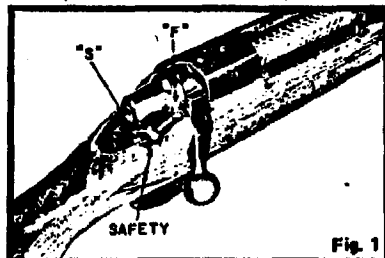
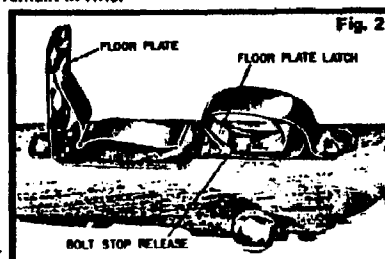

Fig. 1
Fig. 2
**SAFETY (Fig. 1)** — To engage safety to ON SAFE position, rotate to rear stop position marked "S" on receiver. Bolt handle will be locked down and rifle will not fire. When rotated forward to fire position, marked "F" on receiver, safety will disengage. Trigger can be pulled to fire rifle or bolt handle raised to open action. **CAUTION:** Before firing, make sure barrel is clean, free of heavy oil, grease, or any obstruction.
**TO MAGAZINE LOAD** — Open action. Load cartridge into magazine in conventional manner. Magazine may be loaded with four (4) standard caliber cartridges. Magnum magazine capacity is three (3) cartridges. If cartridge is loaded in chamber put safety ON SAFE before closing bolt.
**TO UNLOAD** — Hold rifle with muzzle pointed in safe direction. Move safety to OFF SAFE position and raise bolt handle. Move safety to ON SAFE position and pull handle rearward. Grasp cartridge and remove from action. Push bolt forward until next cartridge is released from magazine. Repeat until magazine is empty. **CAUTION:** Safety will be in the fire position during part of this operation, so keep muzzle pointed in safe direction. BDL grade magazine may also be unloaded from bottom. Raise bolt handle, pull bolt rearward and remove cartridge from chamber. Leave bolt in open (rear) position and put safety ON SAFE. Place hand over ejection port and turn rifle bottom upward. Press floor plate latch to release floor plate (Fig. 2). Lift floor plate, spring and follower clear of magazine, place hand under open magazine and turn rifle back to upright position. Grasp and remove released cartridges. Close and latch floor plate. **CAUTION:** Carefully inspect action and magazine to be sure no cartridges remain in rifle.
**TO REMOVE BOLT** — Press upward on bolt stop release (Fig. 2) and pull bolt from rifle.